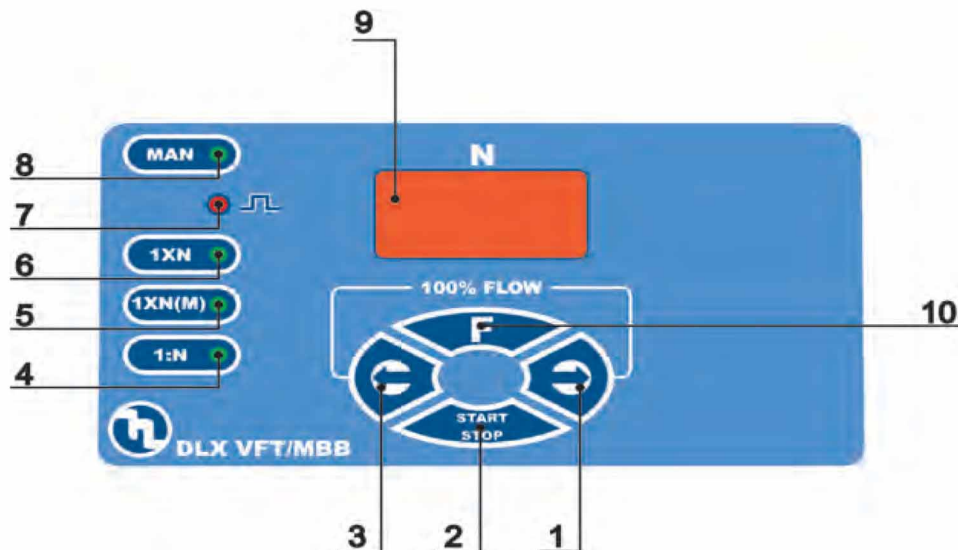
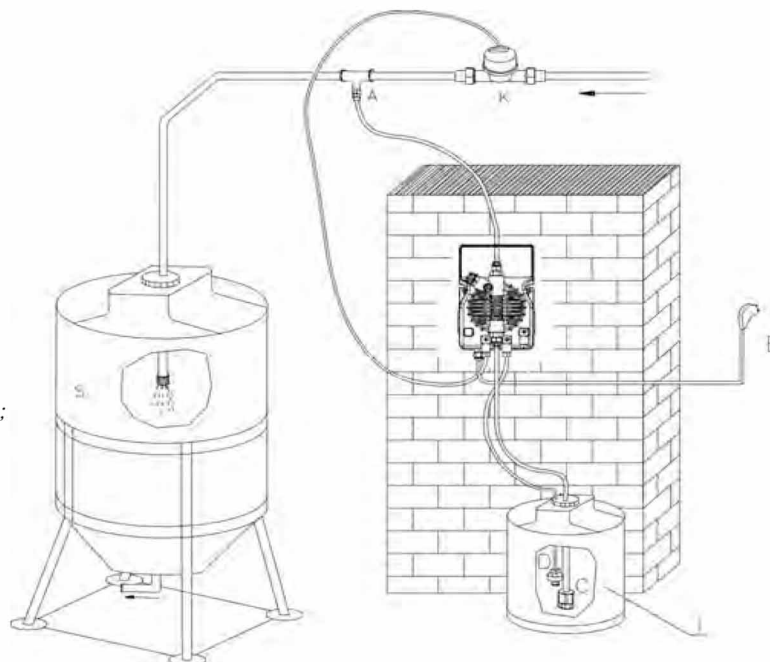

Fig. 13
Fig. 14
6.1 - PUMP CONTROLS (Fig. 13)
- 5 - "green" LED 1XN (M) function
6.2 - TYPICAL INSTALLATION (Fig.14)